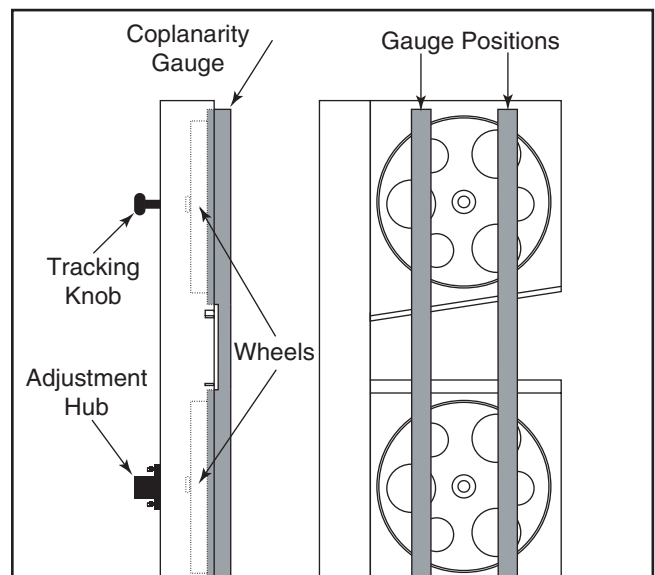

Figure 86. Checking for coplanarity.
4. Place your gauge up against both wheels in the positions shown in **Figure 86**.